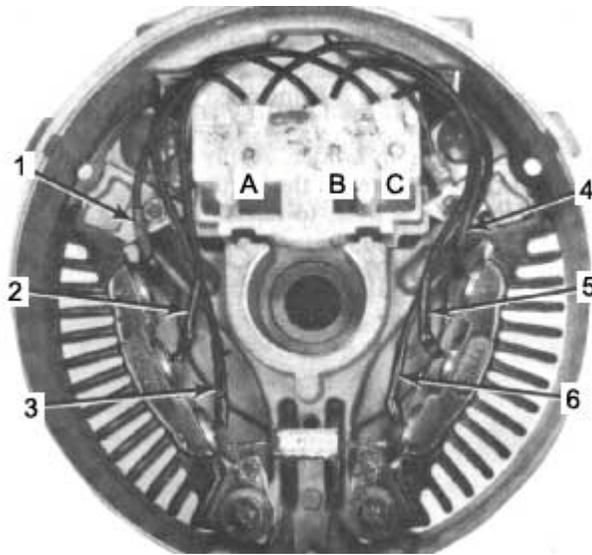

Figure 21
11. Install rectifier leads 1 & 6 to AC stud "C", rectifier leads 2 & 5 to AC stud "B", and rectifier leads 3 & 4 to AC stud "A" (Figure 21). Note the routing of rectifier leads.